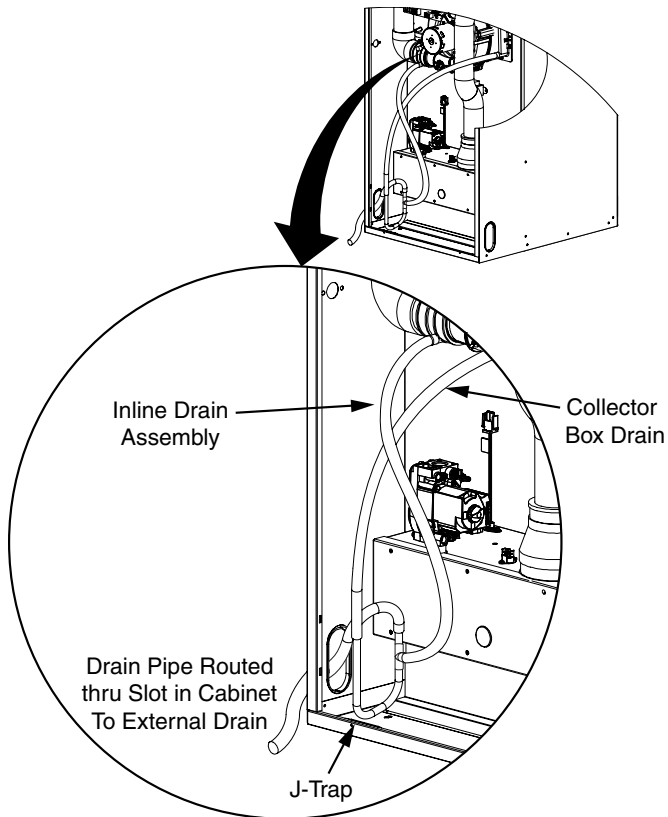

Figure 17. Condensate Drainage
- The condensate drain may exit through the left or right slots in the bottom of the furnace. See Figure 17 (page 18). Make sure the flexible drain hose is not kinked.
1. Remove the collector box soft tube (Figure 17) and verify the exit from the collector box is clear of any debris or obstructions.